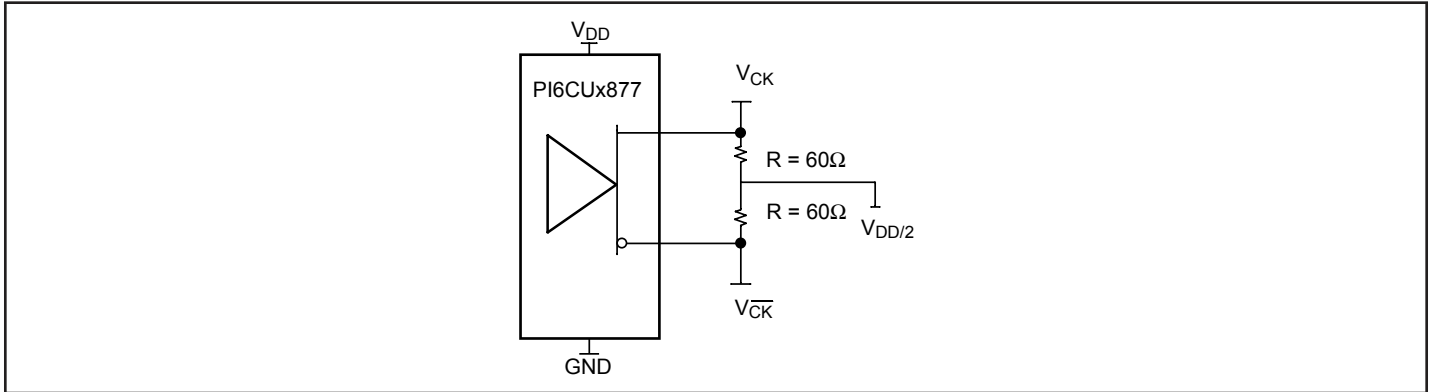

Figure 1. IBIS Model Output Load
16. The Output slew rate is determined from IBIS model load shown in Figure 1. It is measured single-ended.